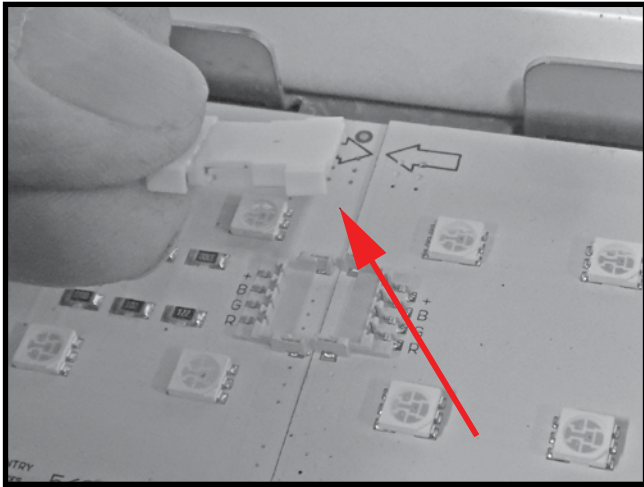

Figure 53: LED strip bridge connector.
5. Remove the bridge connector of the LED section(s) to be replaced (Figure 53). These connector tabs lift up much like the main electrical connector. In this way, individual LED sections can be replaced without removing the entire row of LED sections from the fire feature.
8. Reconnect the individual LED sections using a bridge connector as shown in (Figure 53).